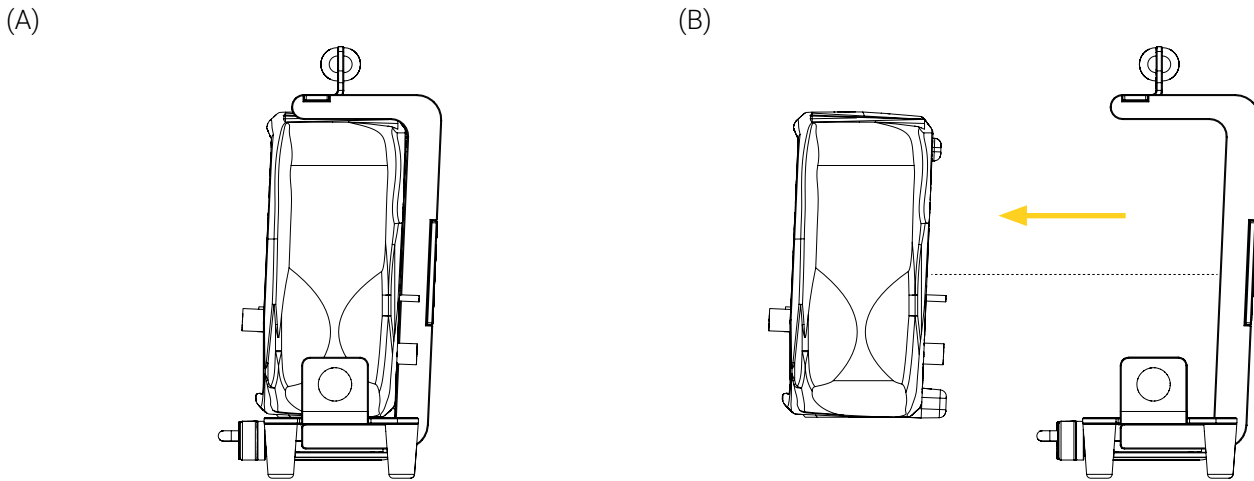

Figure 10: Removing the medical device from the BP310 – FL
2. Pull the medical device out of the mounting bracket horizontally (Figure 10).